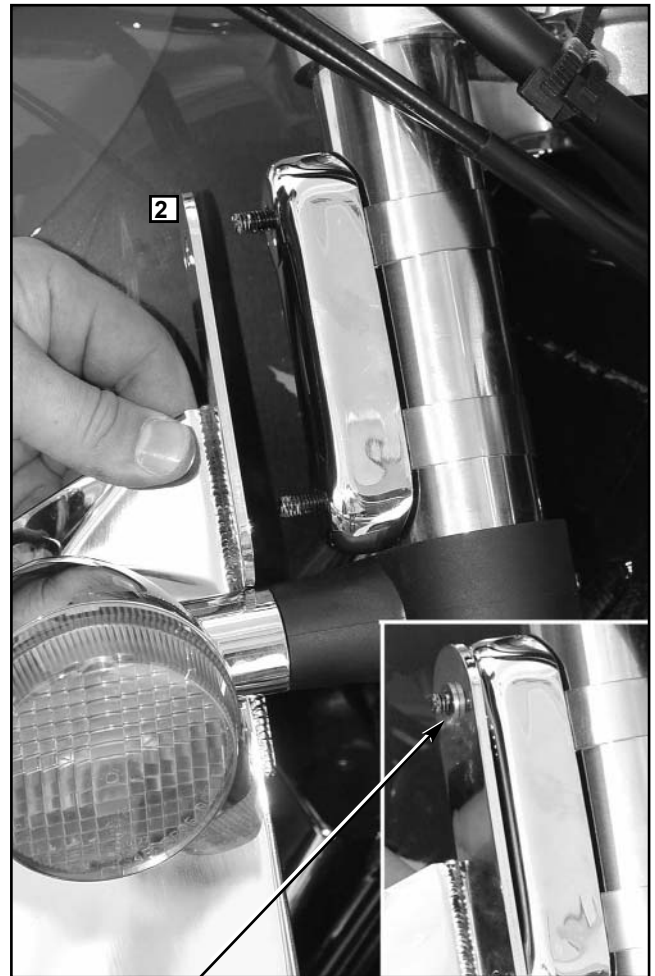

Figure 2.
1. Select the appropriate Chrome Lower for the left or right side of the motorcycle. Place Lower on stud of Spider. Place Brass Washer on upper stud. **Figure 2.**